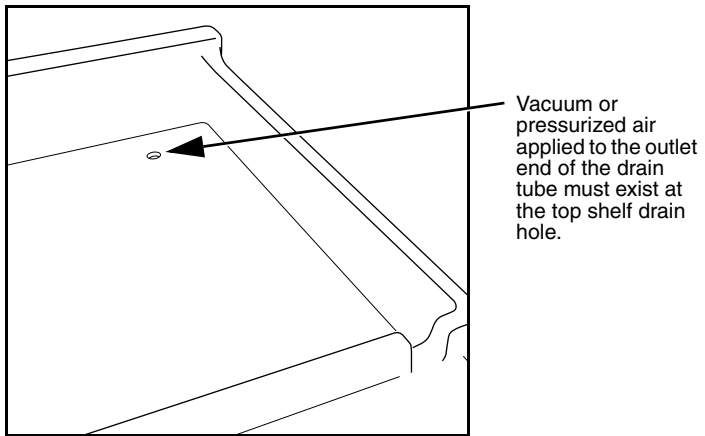

Figure 2-5 Top Shelf Drain
2. Test the top shelf drain by connecting a vacuum or air supply source to the outlet end of the drain tube. Then, verify the presence of such vacuum or air supply source on the drain (Figure 2-5).